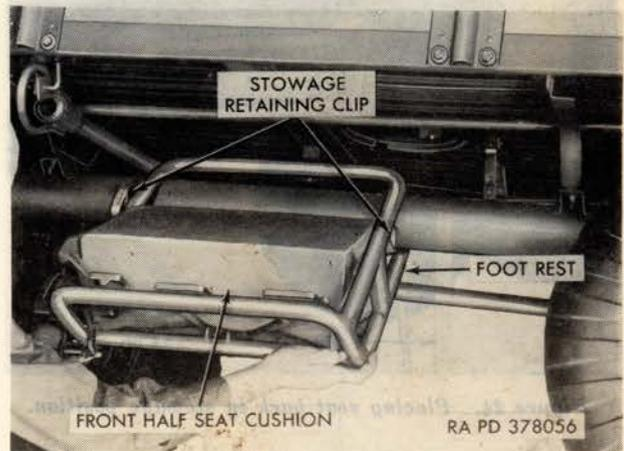
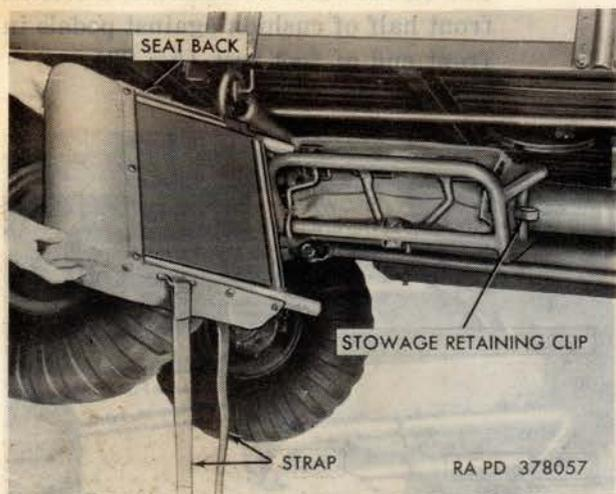
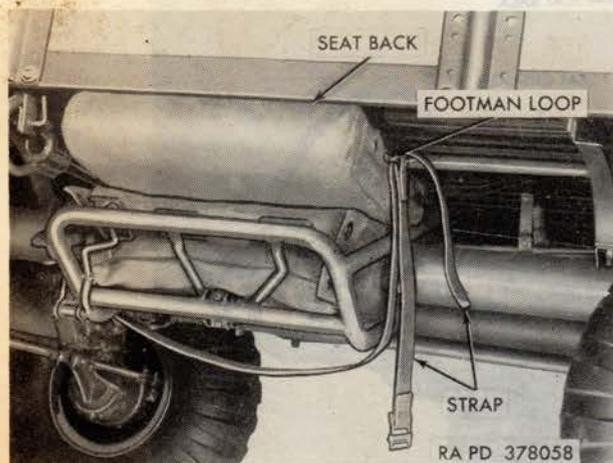

Figure 23. Placing foot rest and front half of seat cushion in stowage position.
Figure 24. Placing seat back in stowage position.
Figure 25. Seat back stowed and straps arranged for securing rear half of seat cushion.
- (1) Separate the two halves of seat cushion by unlocking four fasteners, two on each side of cushion. Position front half of cushion against pedals in front end of foot rest (fig. 23).
- Turn the two stowage retaining clips on right frame tube to vertical position and slide foot rest with front half of seat cushion over tube between clamps (fig. 23). Pull out clips, turn 90 degrees and hook over vertical tubes of foot rest (fig. 24).
- Loosen strap attached to seat back and push seat back between foot rest and platform (figs. 24 and 25). Push long strap through footman loop, and arrange straps as shown in figure 25.
- Pull long strap out of footman loop on seat back (fig. 25), and remove seat back (fig. 24).
- Turn two stowage retaining clips (fig. 23) to vertical position and pull foot rest with front half of seat cushion from beneath vehicle.